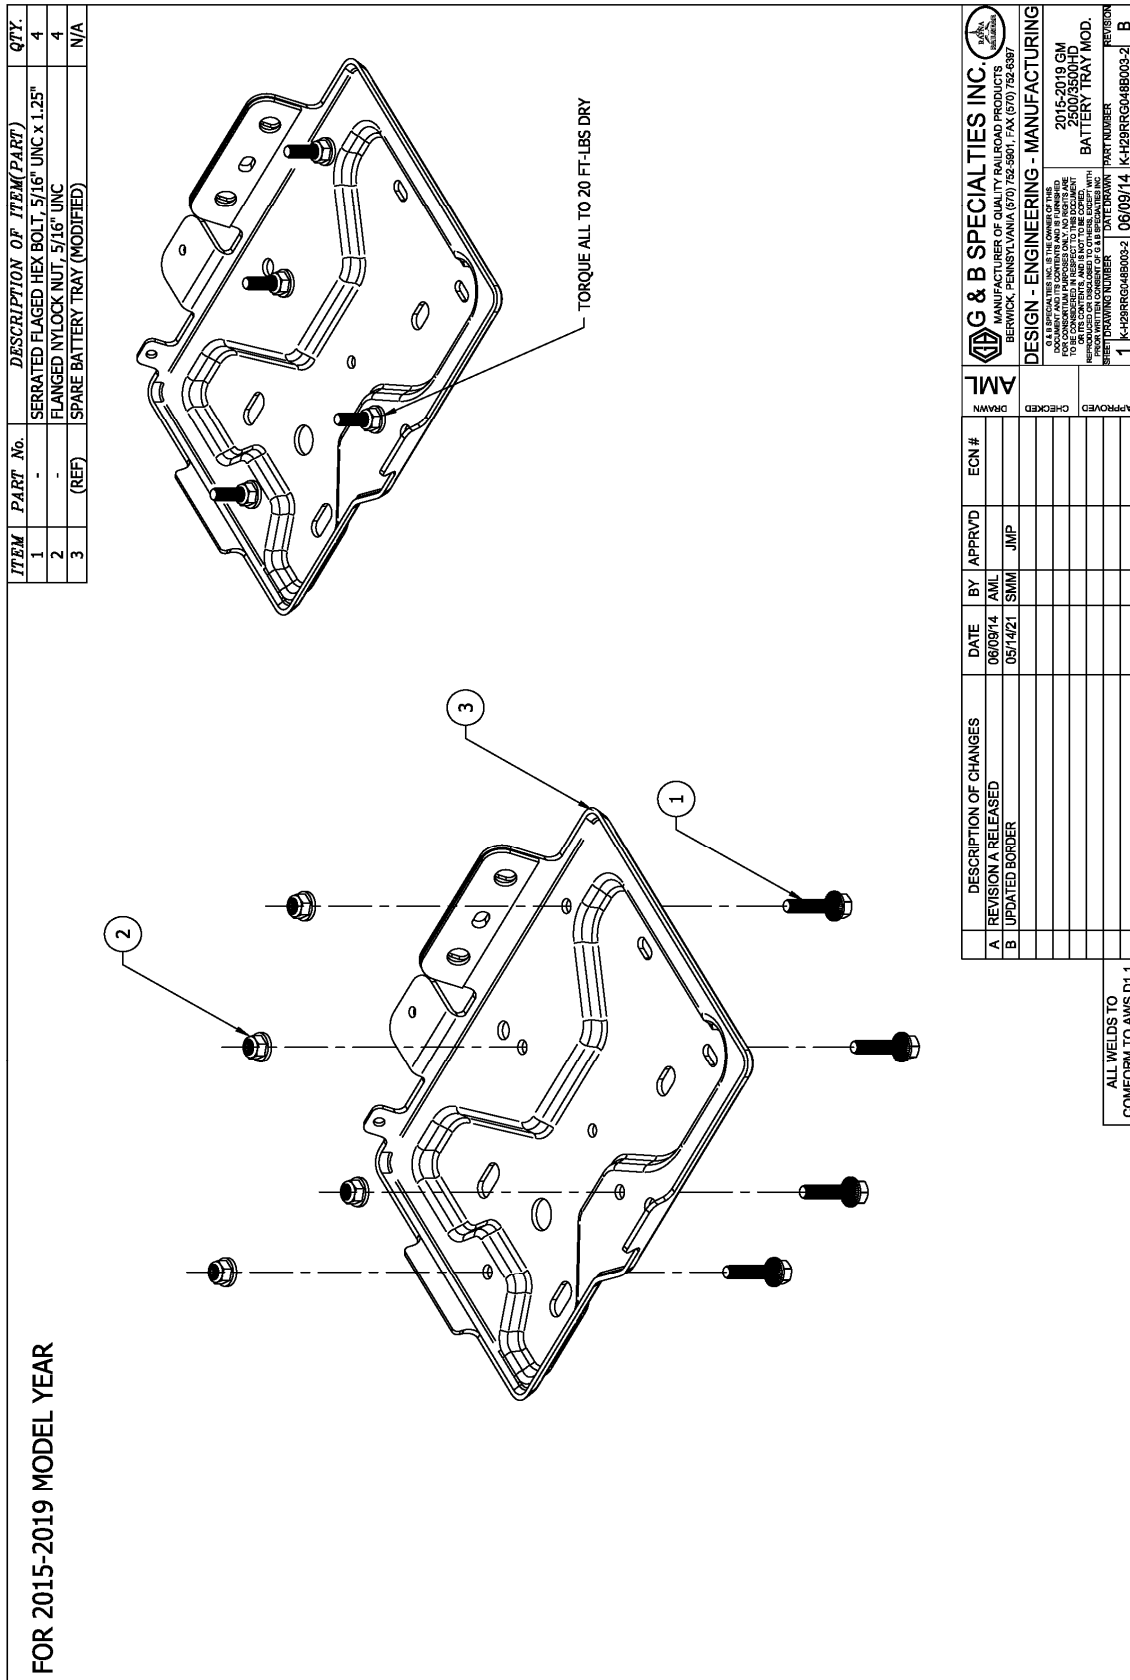

Figure 3A (2015 TO 2019 MODEL YEAR)
5. Install (4) Serrated Flange Hex Bolts and (4) Flanged Nylon Insert Lock Nuts on to battery tray as shown. (Figure 3A for 2015-2019 GM)